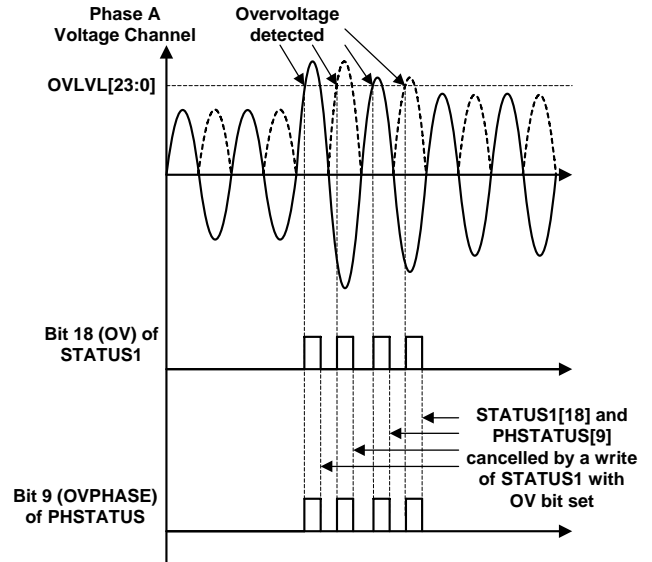

Figure 36. ADE7854 Overvoltage Detection
The ADE7854 detects when the instantaneous absolute value measured on the voltage and current channels becomes greater than thresholds set in OVLVL[23:0] and OILVL[23:0] 24-bit unsigned registers. If bit 18 (OV) in MASK1[31:0] register is set, $\overline{\text{IRQ1}}$ interrupt pin is driven low in case of an overvoltage event. There are two status flags set when $\overline{\text{IRQ1}}$ interrupt pin is driven low: bit 18 (OV) in STATUS1[31:0] register and one of bits 11, 10, 9 (OVPHASE[2:0]) in PHSTATUS[15:0] register identifying the phase that generated the overvoltage. The status bit 18 (OV) in STATUS1[31:0] register and all bits 11, 10, 9 (OVPHASE[2:0]) in PHSTATUS[15:0] register are cleared and $\overline{\text{IRQ1}}$ pin is set back high by writing STATUS1[31:0] register with the status bit set to 1. Figure 36 presents overvoltage detection in phase A voltage. Whenever the absolute instantaneous value of the voltage goes above the threshold from OVLVL[23:0] register, bit 18 (OV) in STATUS1[31:0] and bit 9 (OVPHASE[0]) in PHSTATUS[15:0] registers are set to 1. The bit 18 (OV) of STATUS1[31:0] register and bit 9 (OVPHASE[0]) in PHSTATUS[15:0] register are cancelled when STATUS1 register is written with bit 18 (OV) set to 1.